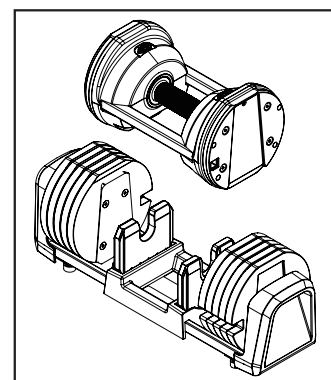

Figure 2
5. With the twist handle set to 5, pull the handle straight up from the dumbbell. This will remove only the handle from the base, leaving all of the weight plates standing in the base (Fig. 2). The handle without plates represents the starting weight of 5 lbs (2.3 kg).